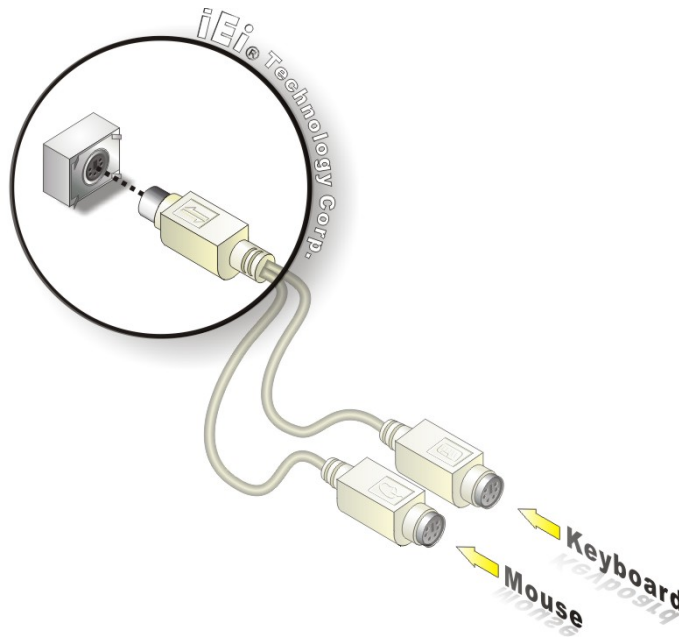

Figure 4-20: PS/2 Keyboard/Mouse Connector
Step 2: **Insert the keyboard/mouse connector.** Insert the PS/2 connector on the end of the PS/2 y-cable into the external PS/2 connector. See **Figure 4-20**.